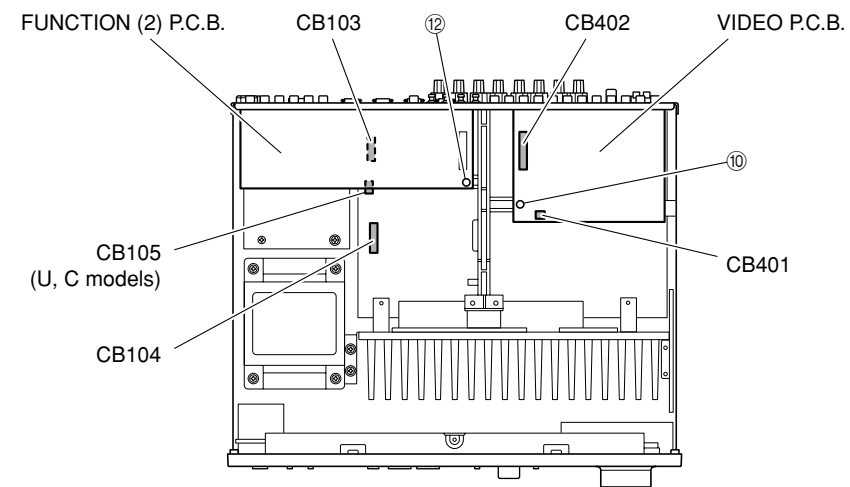

Fig. 3
- a. Remove 1 push rivet (10). (Fig. 3)
- c. Remove CB401 and CB402. (Fig. 3)
- b. Remove the VIDEO P.C.B.. (Fig. 3)
**6. Removal of FUNCTION (2) P.C.B.**
- a. Remove 1 push rivet (12). (Fig. 3)
- c. Remove the FUNCTION (2) P.C.B.. (Fig. 3)
- d. Remove CB103, CB104 and CB105 (U, C models). (Fig. 3)